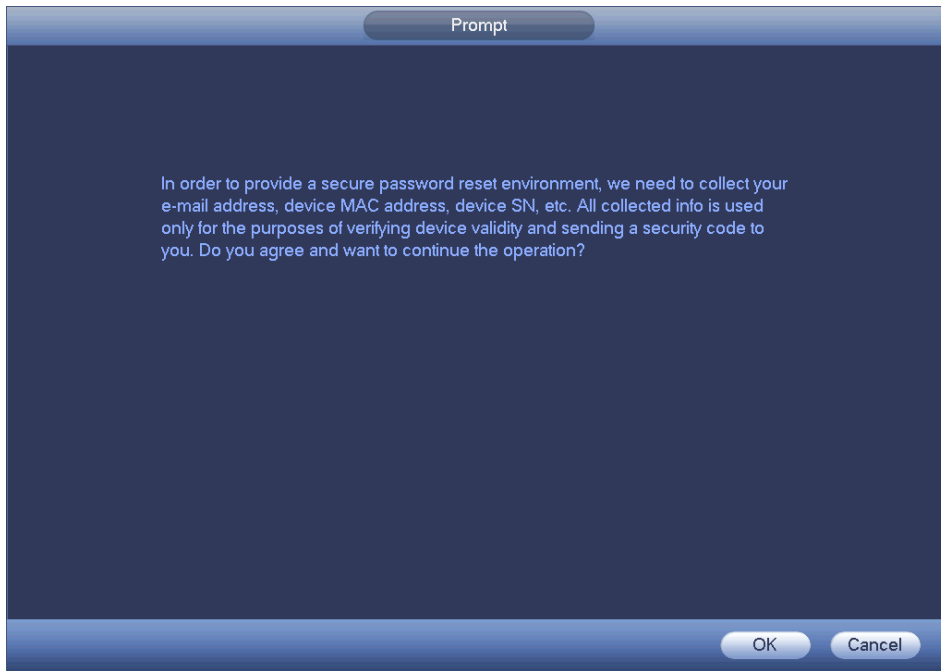

Figure 2-7
- If you have not input email address information when you are initializing the device, the interface is shown as in Figure 2-7.
In Figure 2-7., select security question from the drop down list. Device displays security question interface. See Figure 2-9. Please input the correct answers here.